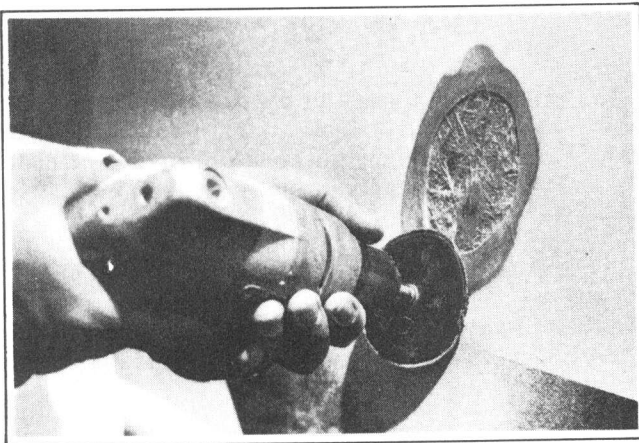

Figure 4-12. Rough Sanding Outside Surface
- After the patch is cured, remove the cardboard from the outside of the hole and rough sand outside surface, feathering the edge of the hole. See Figure 4-12.